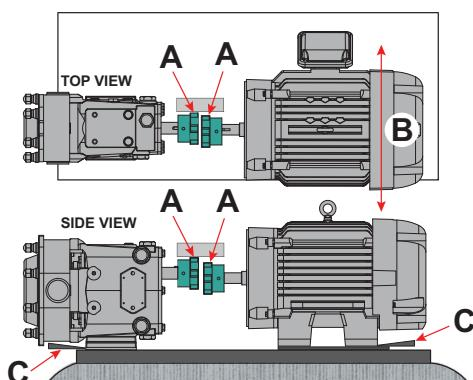

Figure 24 - Check Parallel Alignment
- Using a feeler gauge at location "A" in Figure 24, determine the direction and amount of movement needed (Figure 24, item B).